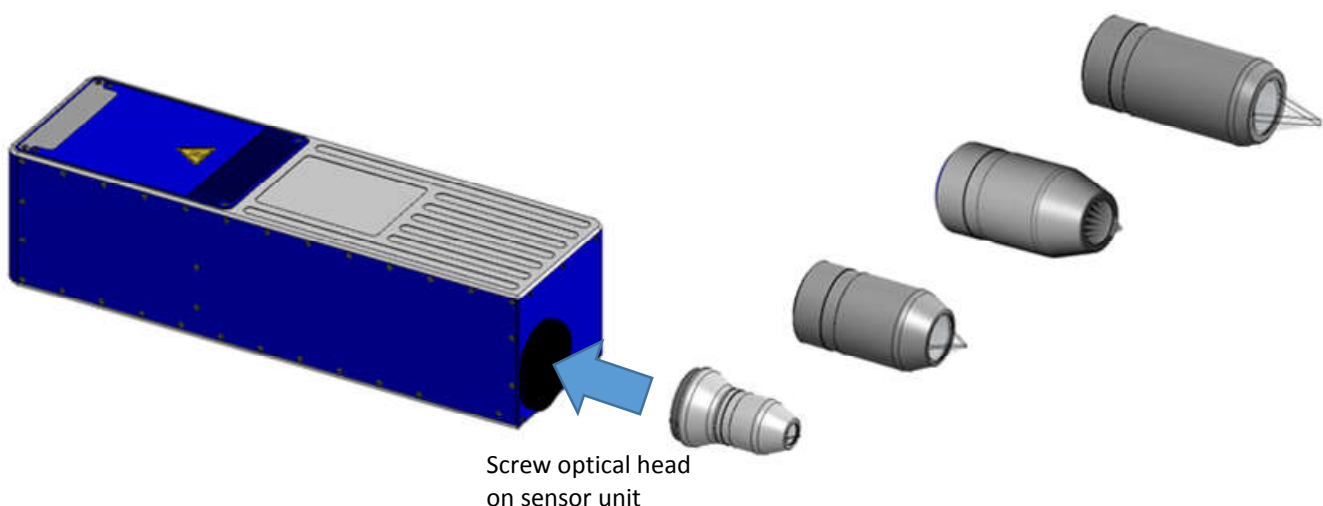

Fig 4-2: Interchangeable optical heads
- Connecting the Optical Head which suit to your application to the CHRcodile CLS unit. The Optical Head is simply screwed on the CHRcodile CLS unit (Cf. Figure 4.2),